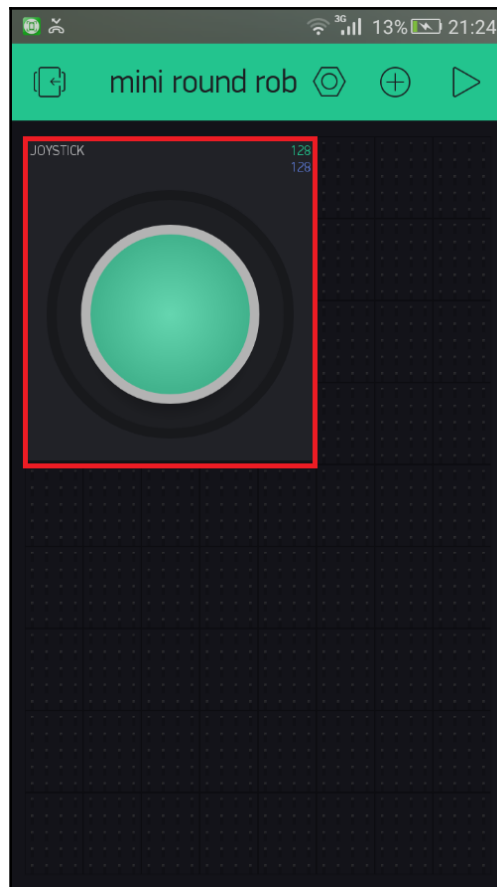

Figure 3.5: The Mini Round Robot app created in chapter 2, Building a Mini Round Robot with Original ESP8266
1. Open the Mini Round Robot Blynk app (Figure 3.5). Switch the app to the **EDIT** mode if it is in the **PLAY** mode: